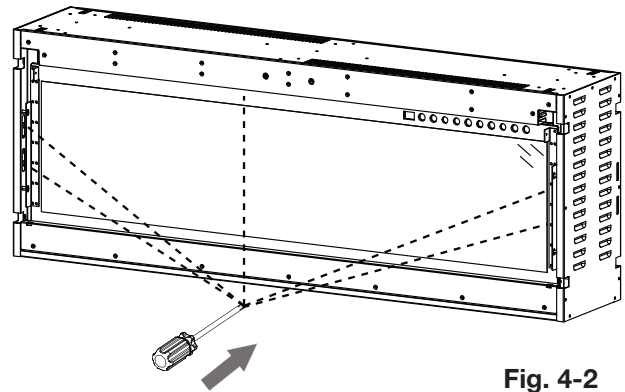

Fig. 4-2
- Secure using 5 screws (supplied) (**Fig. 4-2**).